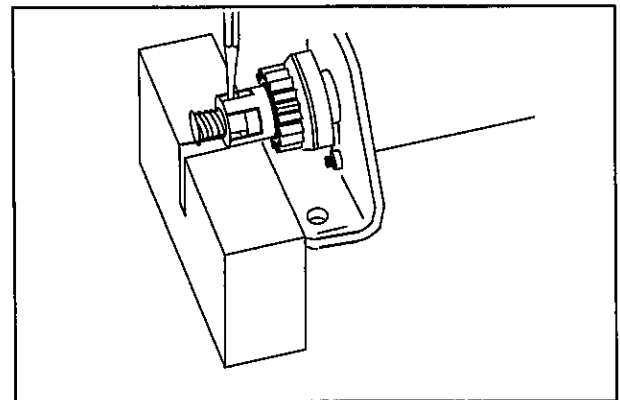

Fig. 10
1. Place starter drive retainer on support block, Fig. 10.